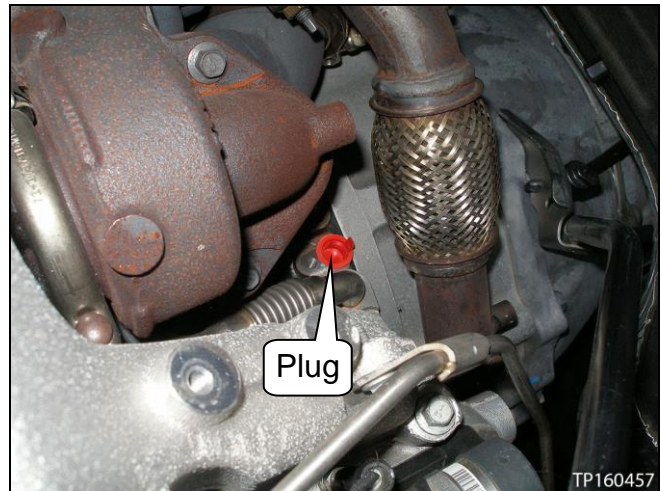

Figure 95
- a. Remove the plug (see Figure 95).
- d. Guide the oil dipstick tube further into the first hole at an angle, and then into the second engine block hole until fully seated (see Figure 95 and 96).